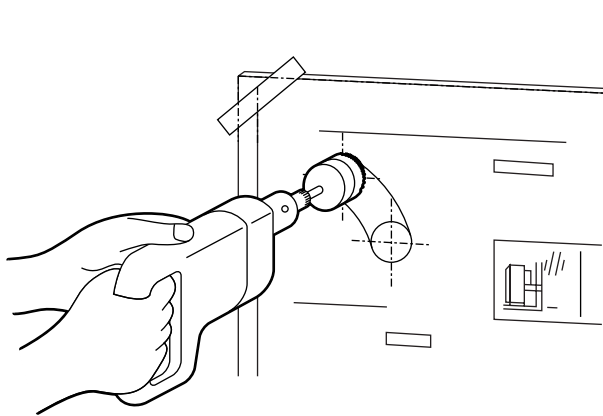

Fig. 5
4. Cut the hole for the flue pipe from inside the room. Use a 2-3/4 to 3" diameter hole saw attached to an electric drill (See Fig. 5). The opening on the inside wall should be slightly higher than the outside opening (approximately 1/4") so that the flue pipe will slope slightly downward (approximately 2 degrees) after it is installed (See Fig. 6). This will enable the draining of condensed moisture from the flue pipe to the outside and prevent rain or snow entering from outside after installation.